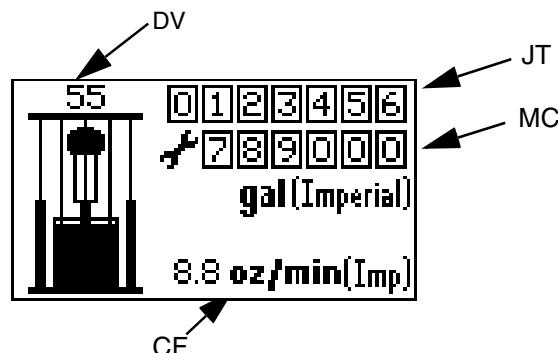

FIG. 19: Run Mode Screen
3. The Splash screen (FIG. 18) will flash on while the progress bar fills from left to right. It will then go directly to Run mode (FIG. 19).
See FIG. 16 and FIG. 19.
2. While in Prime Mode, the job total counter (JT) is blank and will not count. However, the maintenance counter (MC) will continue to decrement.
3. When a new drum is installed, press and hold  while in Prime Mode to reset the drum volume remaining (DV) to the drum fill volume (DF).
4. To exit Prime Mode, press . The Prime symbol will disappear and the LED will stop flashing; the screen will return to Run Mode (FIG. 19).
If a key is not pressed within one minute of entering a setup screen, the system will return to Run Mode (FIG. 19).
- a. Press and release to enter Diagnostic Mode from Run Mode (FIG. 19).